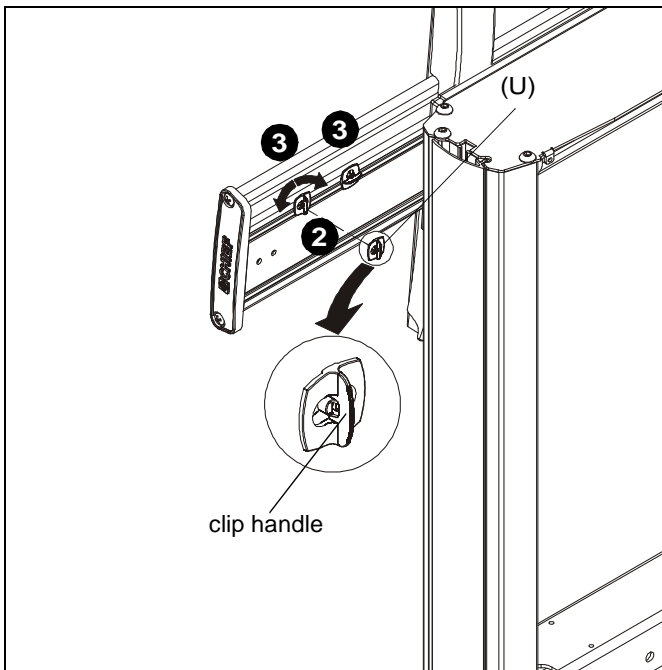

Figure 13
2. Place FCA clip (U) into groove on back of Fusion mount with clip handle in a vertical position. (See Figure 13)
3. Rotate FCA clip (U) 90° in either direction until clip handle is in a horizontal position. (See Figure 13)